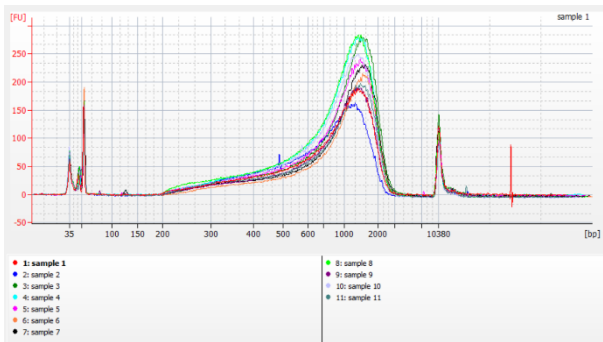

Figure 4. Agilent 2100 Bioanalyzer image of PCR products
- 3.9.12 The Agilent 2100 Bioanalyzer system is the preferred method for estimating the size range of the PCR products. Traces should resemble the overall shape of the sample electropherogram shown in Figure 4.